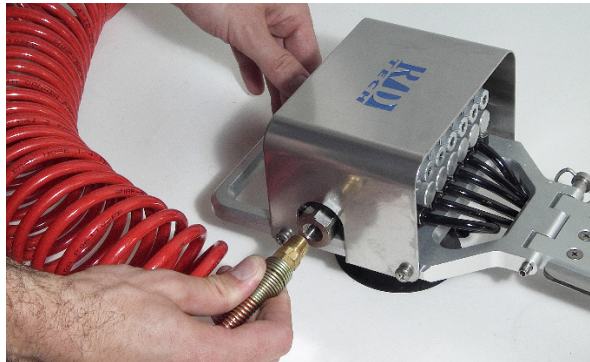

Figure 2-10 Connecting an air supply to the vacuum generator
17. If you are using the Wing scanner V model, connect the vacuum generator to an air supply (see Figure 2-10 on page 24).